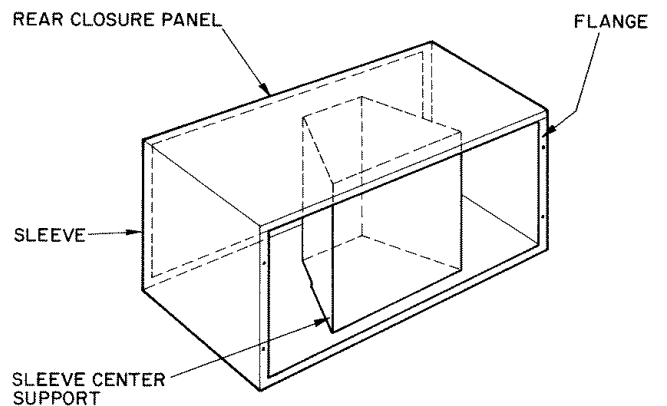

FIGURE 9 — REMOVING CENTER SUPPORT AND CLOSURE PANEL FROM CARRIER WALL SLEEVE
1. Remove cardboard center support and rear closure panel from wall sleeve. Refer to Figure 9.